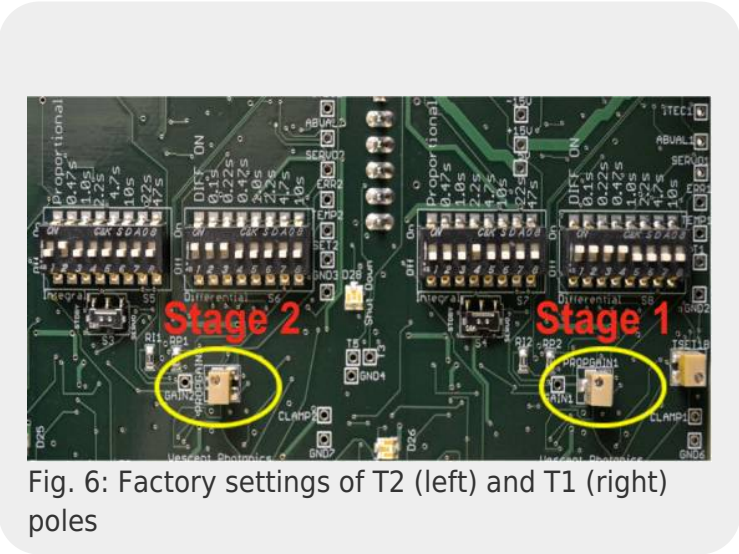

Fig. 6: Factory settings of T2 (left) and T1 (right) poles
- 1. Set the dip switches to the configuration shown in table 6 and table 7 and figure 6.